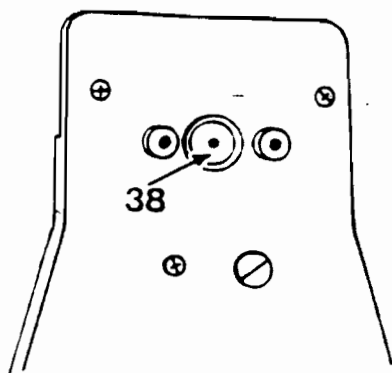

FIG. 15
Remove push rod and washer, then carefully prise out 'O' ring seal at (38) Fig. 15.